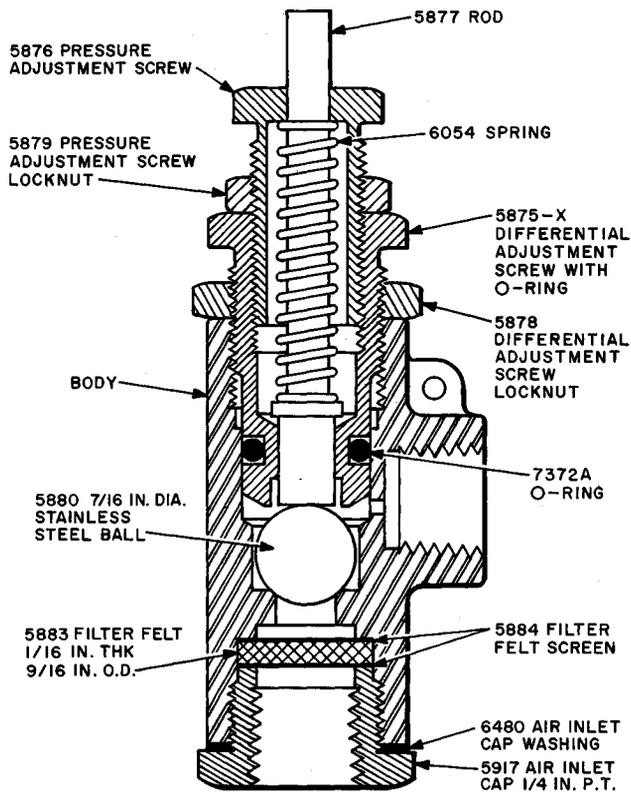

Fig. 9—KS-16432 L1 and L2 Air Dryers—Pilot Unloader
PILOT UNLOADER (Fig. 9)
- (1) Observe the high pressure gauge and check that the unloader:
- (2) Observe that the unloader rod (Fig. 9) moves between its two extreme positions with no appreciable chatter.
- (1) If air delivery to the tank starts or stops outside the limits of 135 to 150 psi ± 2.5 , proceed as follows:
- (a) To adjust the pressure differential on the unloader, loosen the differential adjustment screw locknut (Fig. 9). Then using the 9-inch wrench, turn the differential adjustment screw clockwise to increase or counterclockwise to decrease the unloader pressure differential to approximately 15 psi. Hold the differential adjustment screw from turning and tighten the locknut. Recheck the 15 psi pressure differential.
- (b) To adjust either the high or low pressure settings on the unloader, loosen the pressure adjustment screw locknut (Fig. 9). Then using the 9-inch wrench, turn the pressure adjustment screw clockwise to increase or counterclockwise to decrease the maximum and minimum unloader pressure settings. Hold the pressure adjustment screw from turning and tighten the locknut.
- (c) Observe the high pressure gauge as in A (1), to see if the limits are being met, and readjust as necessary.
- (2) If the unloader rod chatters during operation, clean the unloader and replace the filter felt.
- (3) Failure of the unloader to start delivery of air to the tank may be due to a defective spring, dirt in the unloader valve, or sticking of the suction unloader valve in the compressor. If the unloader rod remains in the raised position at low pressure, replace the spring. If air blows continuously out past the rod, clean the unloader and replace the filter felt as covered in C. If the trouble is not in the unloader, clean the air compressor suction unloader valves.
- (1) Close the air supply to the cable system.
- (2) Turn off the master stop-start switch.
- (3) Completely release the tank pressure by opening the manual water drain valve.
- (4) Disconnect the unloader tubing using the R-2512 8-inch wrench. Then remove the unloader using the 3/4- by 13/16-inch wrench (Williams No. 731).
- (5) Clamp the unloader in a vise, then loosen the pressure and differential adjustment screw locknuts and the air inlet cap (Fig. 9) using the 9-inch wrench.
- (6) Remove the two adjustment screws, spring, rod, and stainless steel ball from one end of the unloader body. Remove the air inlet cap, washer, filter felt, and screens from the other end.
- (7) Discard the felt, O-ring, and washer; then clean the other parts removed, including the inside of the unloader body, with a KS-14666 Cloth moistened with petroleum spirits.
- (8) Reassemble the unloader as shown in Fig. 9 replacing the filter felt, O-ring, and cap washer during assembly.
- (9) Remount the unloader in the dryer and reconnect the tubing.
- (10) Recheck the operation of the unloader and adjust if necessary.
- (11) Open the air supply to the cable system.
- (12) Turn on the master stop-start switch.